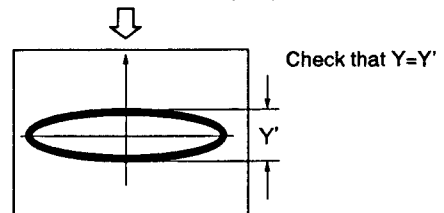

Fig. 7 Lissajous figure of the outer track of the disc (CD)
5. Close the TRKG servo and search frame #100, then open the TRKG servo again to observe the Lissajous figure. At this time, check that the Y-axis amplitude of the Lissajous figure is the same as that noted in step 4. (Fig. 7)